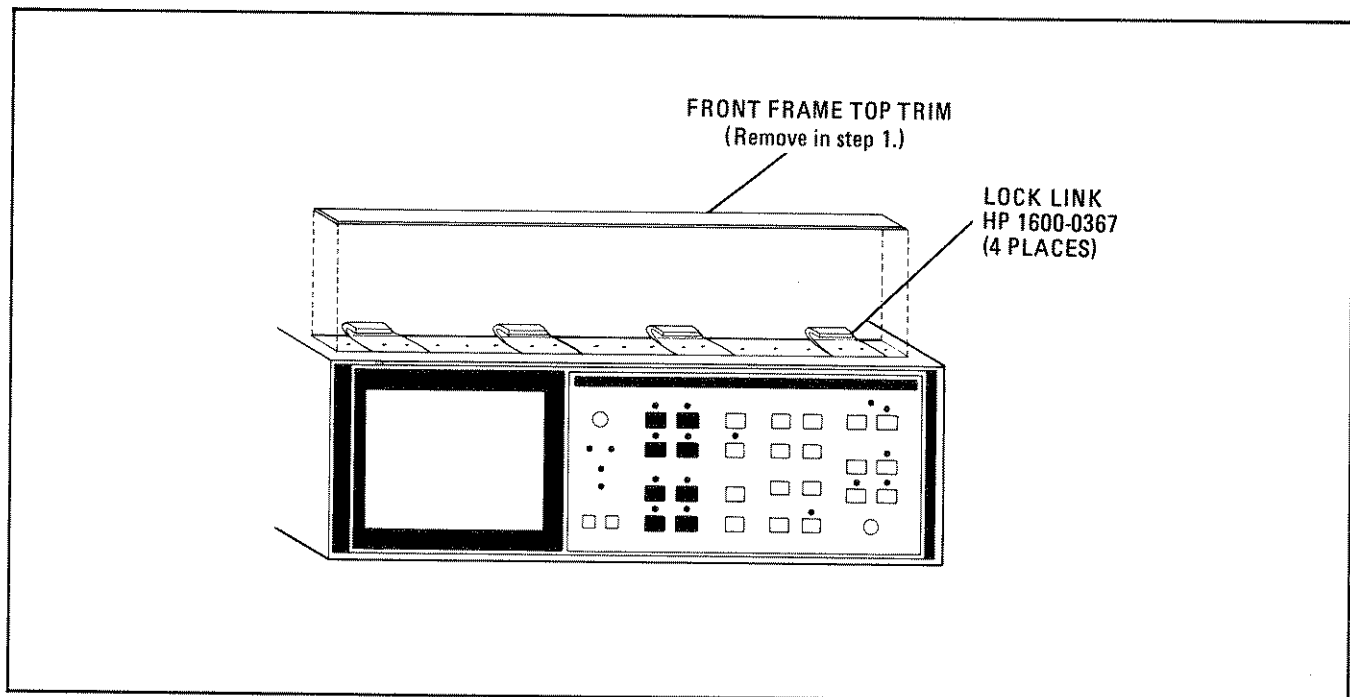

Figure 2-4. Installation of Lock Links on Spectrum Analyzer
1. Remove front frame top trim from the spectrum analyzer (see Figure 2-4).
2. Fasten four lock links, supplied with instrument, to HP 85662A front frame. Use eight 6-32 pozidriv screws provided (there are eight threaded holes in front frame). Open end of each lock link must extend toward front of HP 85662A as shown in Figure 2-4.